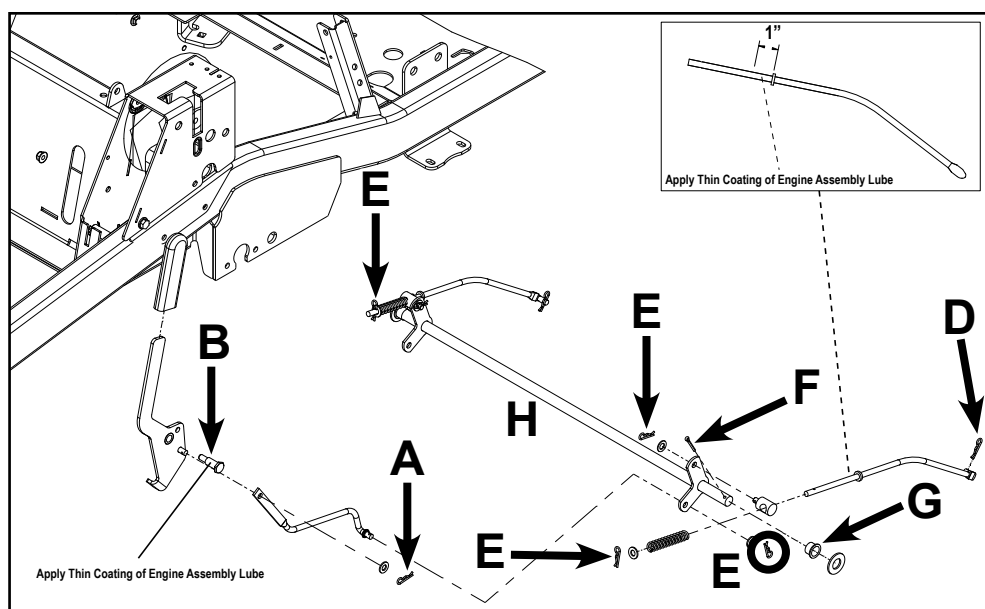

Fig. 047
5. Lubricate the brake handle pivot bolt (B) friction surface with a light coating of engine assembly lube.
6. Install the parking brake handle into the motion control box and torque the mounting fastener (B) to specification – 17 ft-lbs. (23 Nm).
7. Install the parking brake linkage rod to the handle stud using the washer and clip (A).
8. Install the LH control cover and torque the (1) mounting fastener to specification - 5 ft-lbs. (7 Nm).
10. Verify proper parking brake function. (Fig. 047)